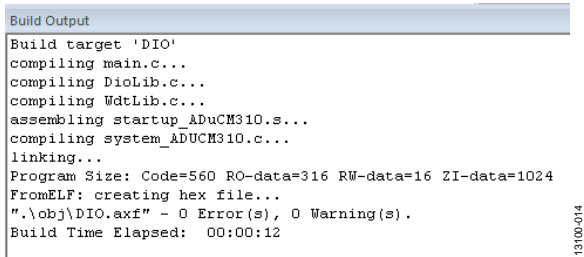

Figure 14. Build Output
- When the build has completed, the message shown in Figure 14 appears.